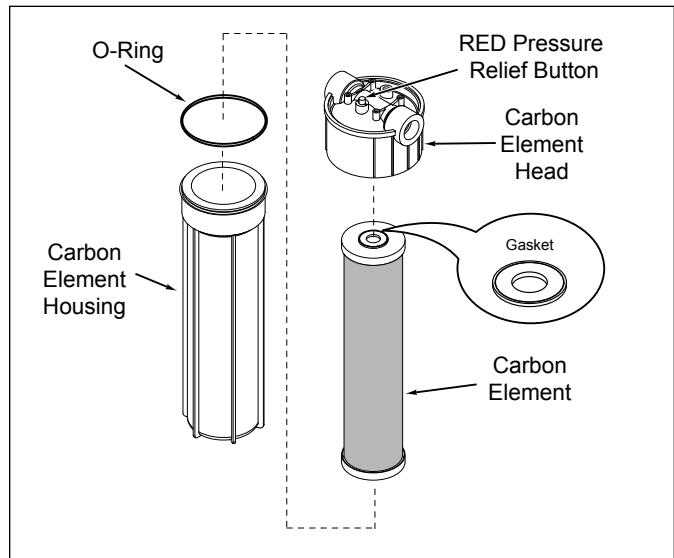

Figure 9. Carbon Element
4. Remove the Carbon Element Housing (Figure 9).
6. Inspect the O-ring on the Carbon Element Housing (Figure 9). Replace the O-ring if it is cracked, twisted, or missing.